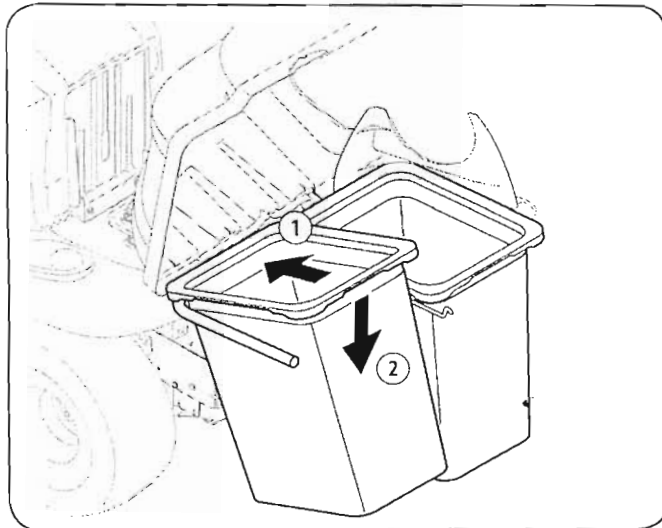

Figure 4-18
- Install both bag assemblies with the tight mesh sides facing forward, onto the bag support brackets by inserting the front edge in first, as seen in Fig. 4-18, and setting the back edge down until it fits into the assembly.